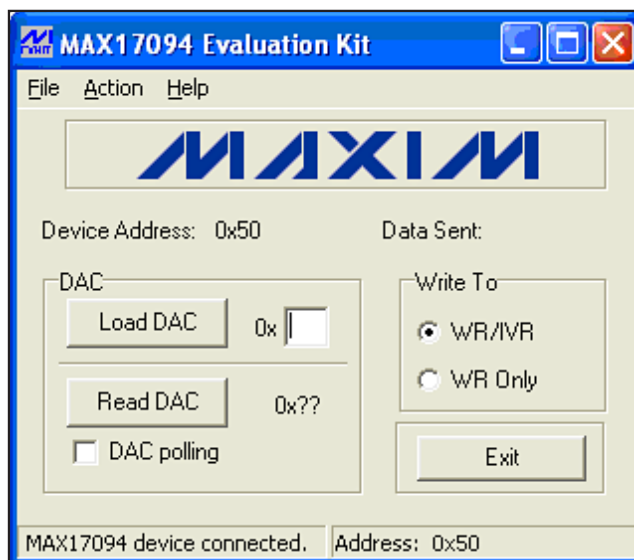
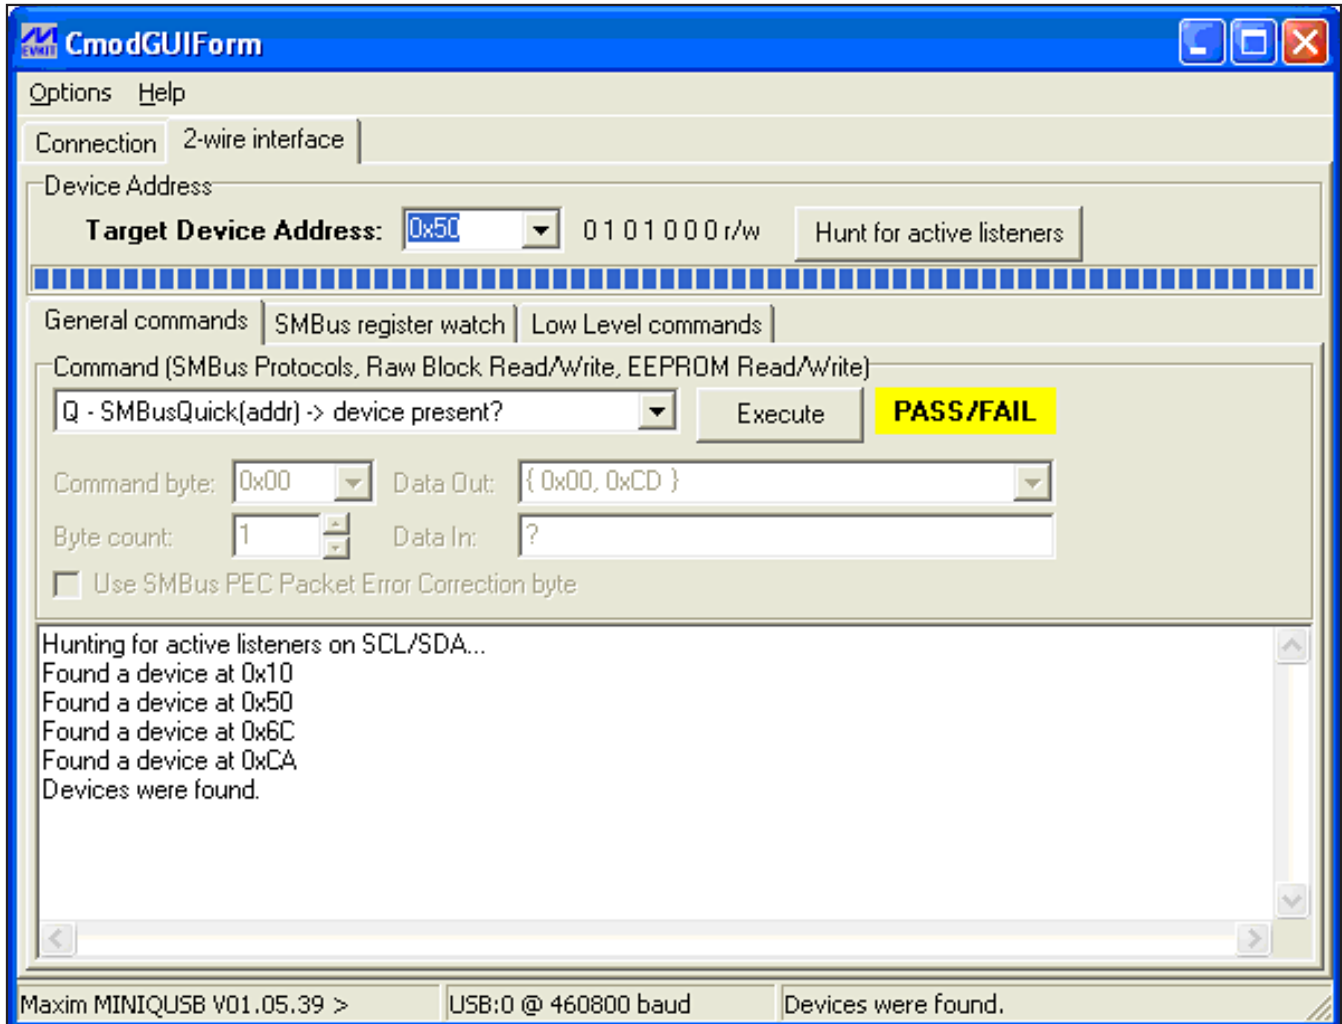

Figure 1. MAX17094 EV Kit Software Main Window
Figure 2. Command Module Interface Window
- 12) Normal device operation is verified when **MAX17094 device connected** appears in the **status bar** on the MAX17094 EV kit main window (Figure 1).
The DAC setting corresponds to a certain sink-current level, which in turn corresponds to a specific VCOM voltage. With the MAX17094 EV kit software, the device's 7-bit internal DAC is configured by entering an appropriate DAC setting into the **Load DAC** edit box. The DAC setting can be set from 0x00 (VCOM_{MIN}) to 0x7F (VCOM_{MAX}). The DAC setting is written to the device by pressing the **Load DAC** button (Figure 1).
There are two methods for communicating with the MAX17094: through the MAX17094 EV kit software main window (Figure 1), or through the interface window available by selecting the **Action | Interface Diagnostic Window** menu item from the menu bar. The Maxim command module interface window (Figure 2) includes a **2-wire interface** tab that allows for execution of the **SMBusSendByte()**, **SMBusReceiveByte()**, and **SMBusQuick()** commands. See Table 6 for details regarding SMBus commands.
The **Command byte** and **Data Out** combo boxes accept numeric data in binary, decimal, or hexadecimal. Hexadecimal numbers should be prefixed by \$ or 0x. Binary numbers must be exactly eight digits. See Figure 2 for an illustration of this tool.